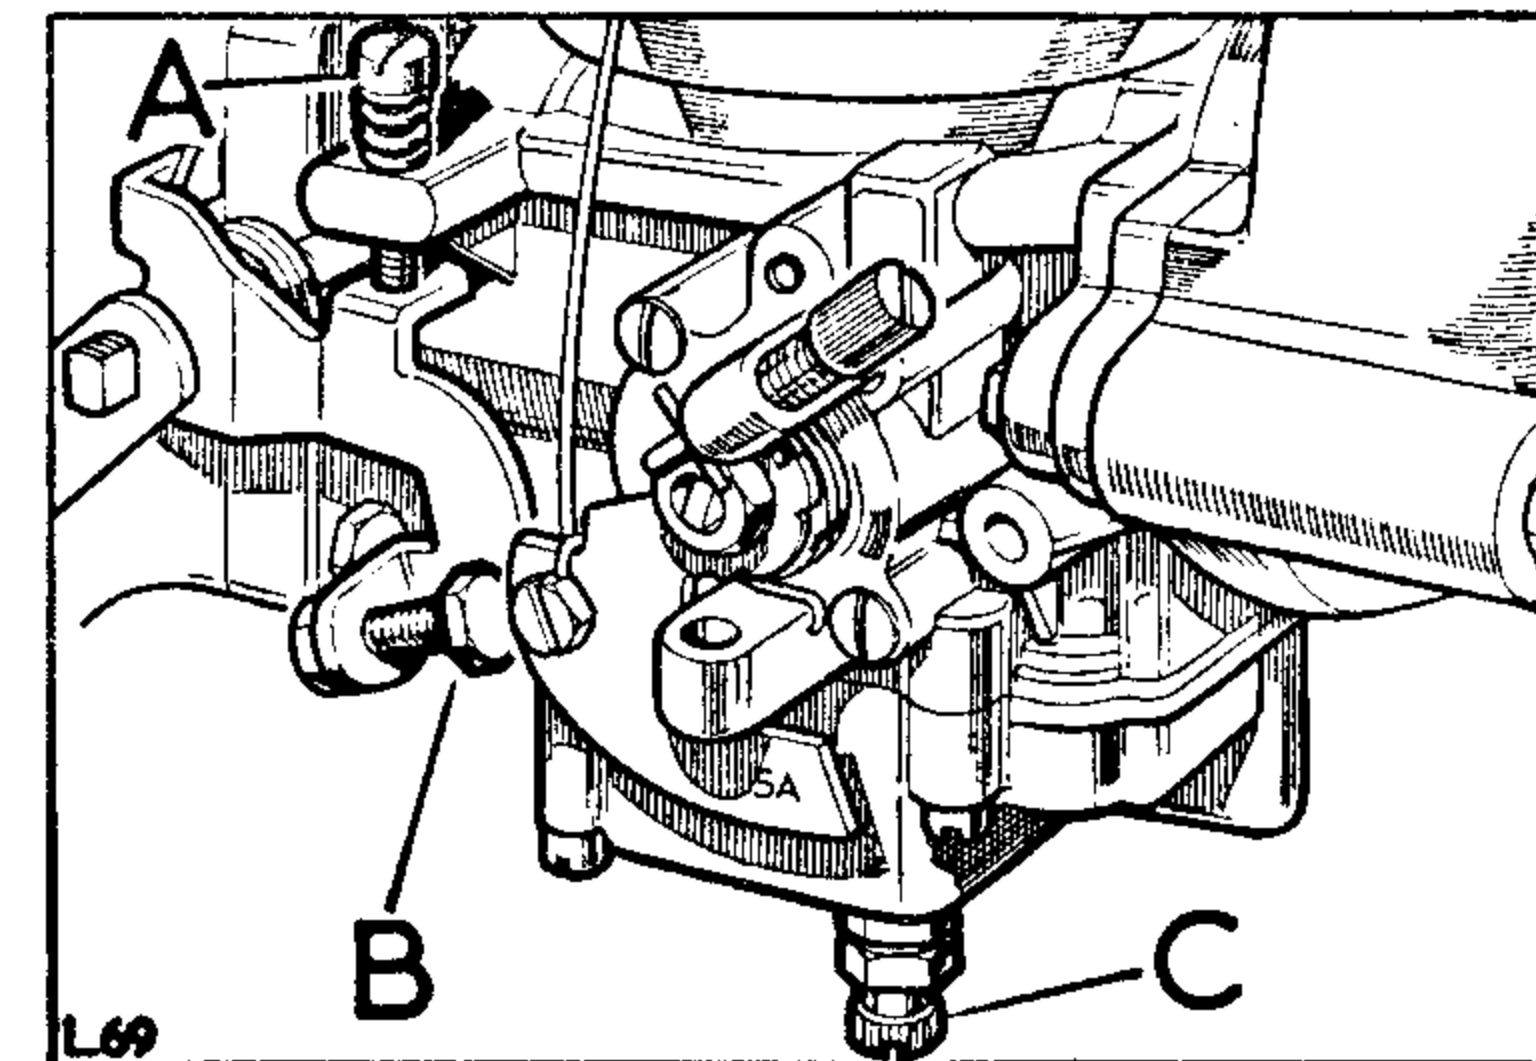

Fig. 9. Carburettor slow-running adjustment, 6-cylinder Petrol models
1. Run the engine until normal operating temperature is obtained. If necessary adjust slow-run screw (A) Fig. 9 to give the correct idling speed.
3. If the engine speeds up immediately the mixture is too rich and the jet adjustment screw (C) Fig. 9 must be turned anti-clockwise when viewed from above, thus weakening the mixture; if the engine stops immediately, the mixture is too weak and the jet adjustment screw should be turned clockwise, again when viewed from above, to enrich the mixture.
Finally adjust the slow-run screw (A) Fig. 9, to get a smooth idling speed.
The fast idle screw (B) Fig. 9 should not require adjustment.